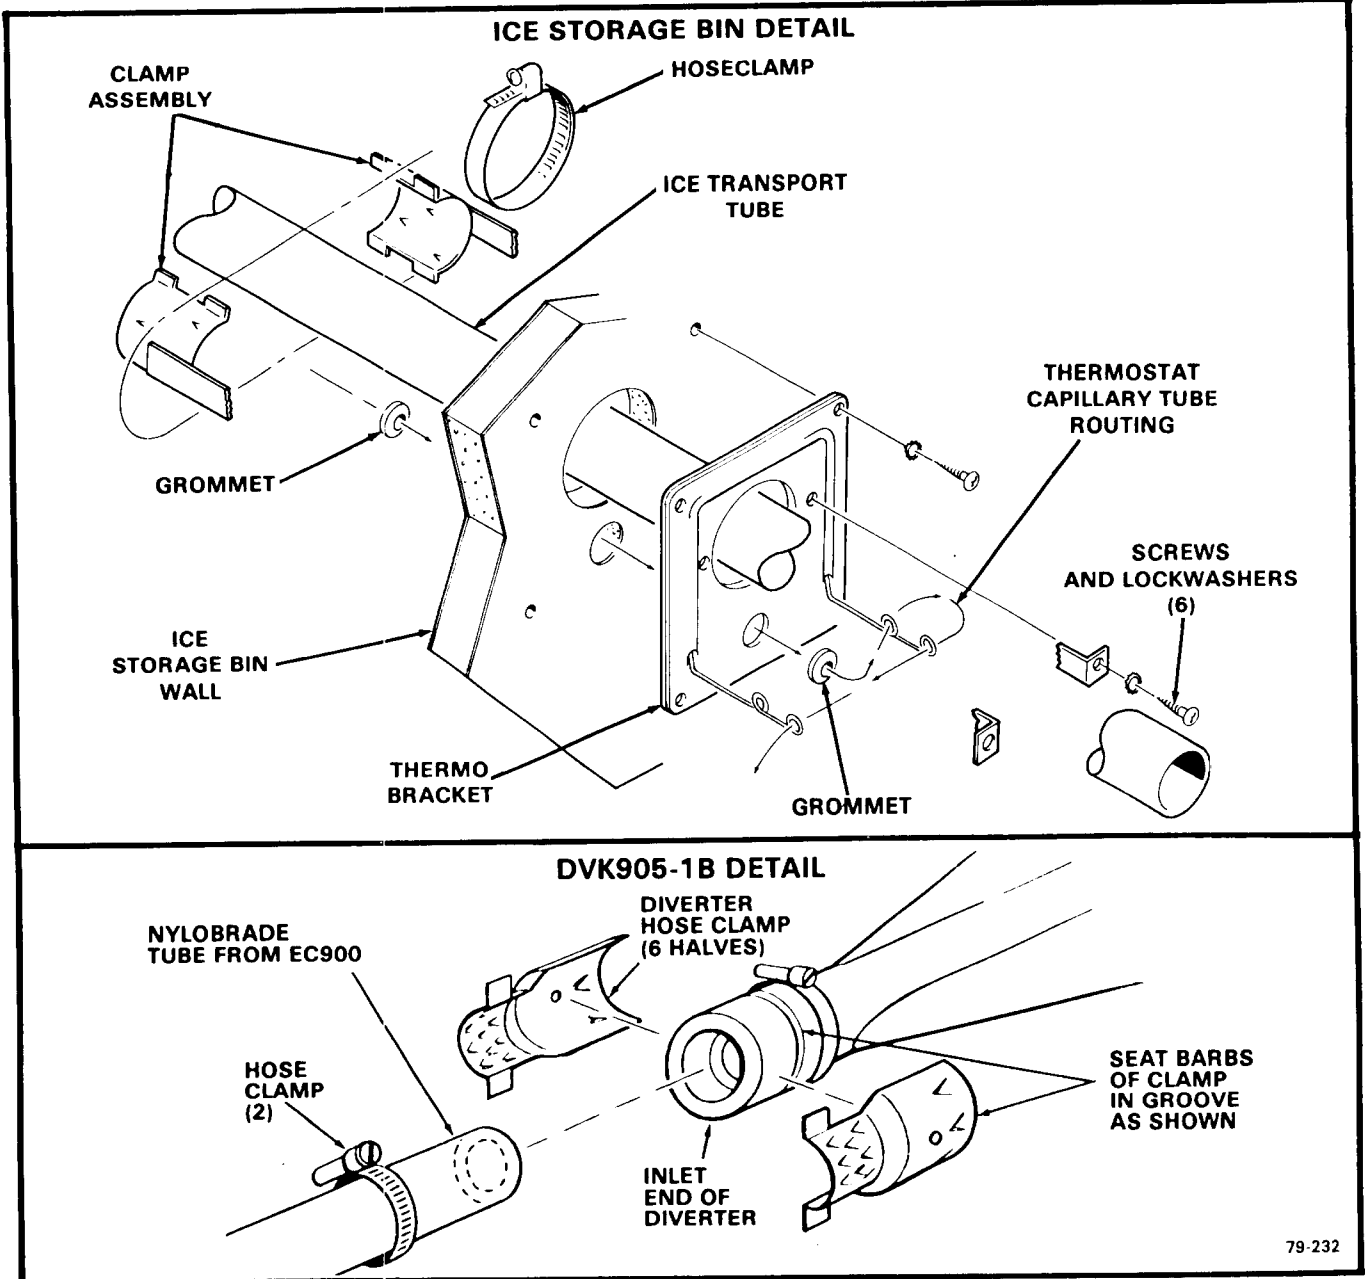

Figure 1-1. Installing Tube and Clamps.
Be sure the routing and positioning of the transport tube eliminates undesirable inclines, U-shape bends, and flat horizontal lengths where there would be the chance of an accumulation of backed up ice and non-moving sections of meltage water. Poor layout in routing transport tube can cause delay in ice delivery to dispenser or bin, as well as excess meltage; and worse, an ice back up situation severe enough to force the transport tube loose from the diverter or extruder breaker and possible damage to the equipment. See the illustrations showing examples of typical layouts and installation in Figures 1-1 and 1-2.
2. Loosen and slide two hose clamps over the free end of the Nylobrade tubing. See Figure 1-1. DVK905-1B detail.
A. To install Bin Thermo Bracket: Refer to Figure 1-1 Installing Tubes and Clamps.